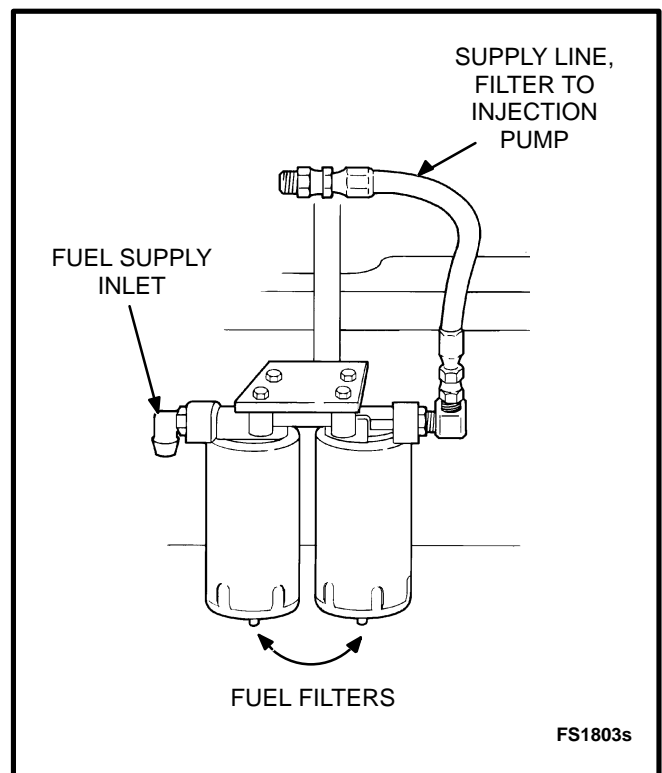

FIGURE 6-5. FUEL FILTERS
1. Remove each fuel filter and fill with clean fuel (Figure 6-5).